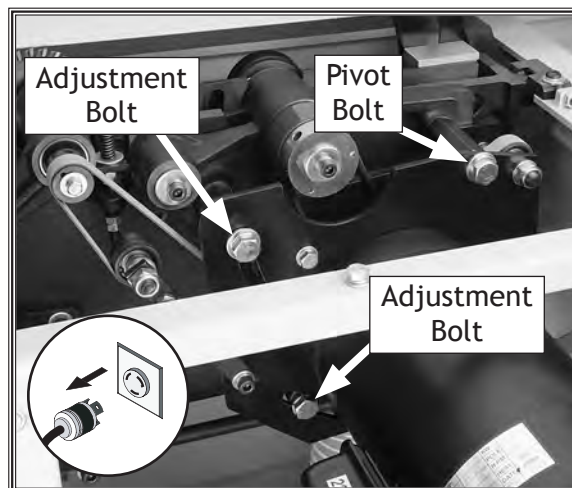

Figure 117. Main blade belt tension controls (table removed for clarity).
4. Loosen the pivot bolt and two adjustment bolts (Figure 117).